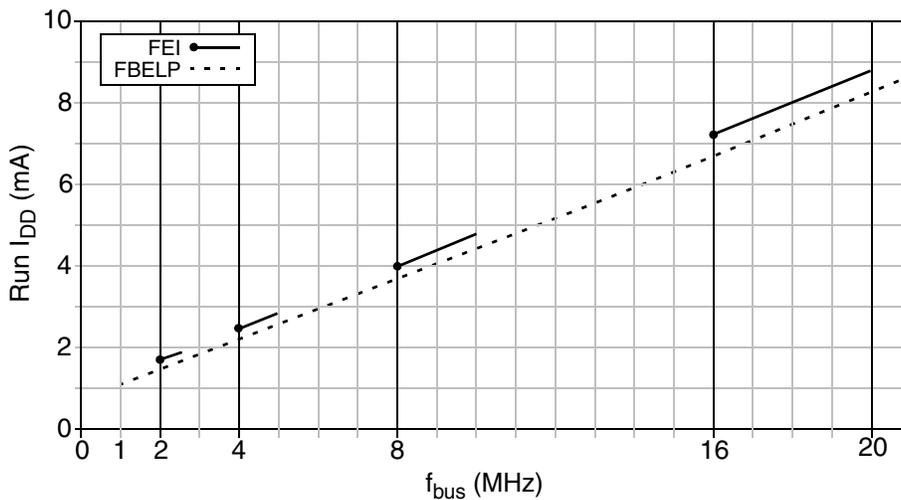
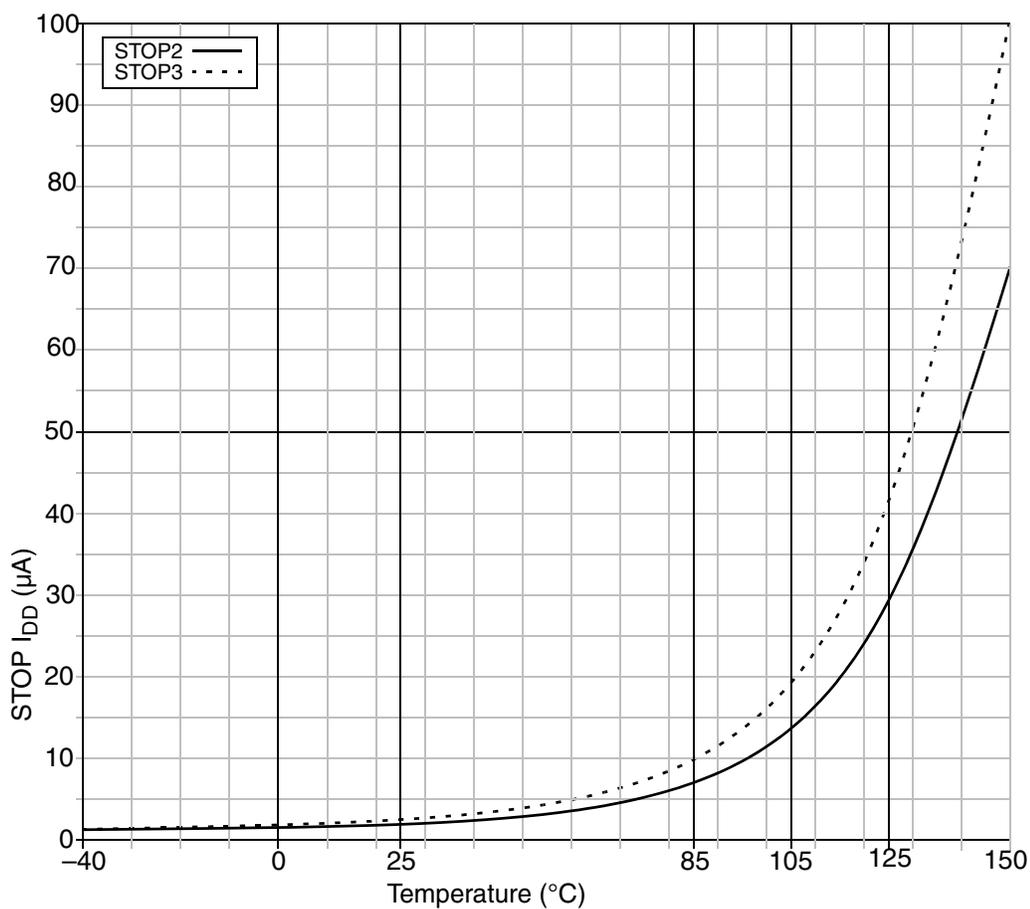

Figure A-5. Typical Run I_{DD} vs. Bus Frequency (V_{DD} = 5V)
Figure A-7. Typical Stop I_{DD} vs. Temperature (V_{DD} = 5V)
- ¹ Typical values are based on characterization data at 25°C. See Figure A-5 through Figure A-7 for typical curves across voltage/temperature.